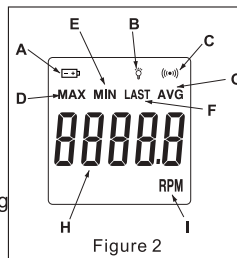

Figure 2
2. LCD display: as shown in Figure 2